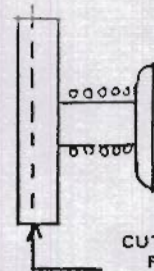

FIGURE 3b -
- 3) Cut off rim of radiator cap (figure 3b). This is done to move the cap close enough to the pipe plug to insure a 1/16" preload on the cap.